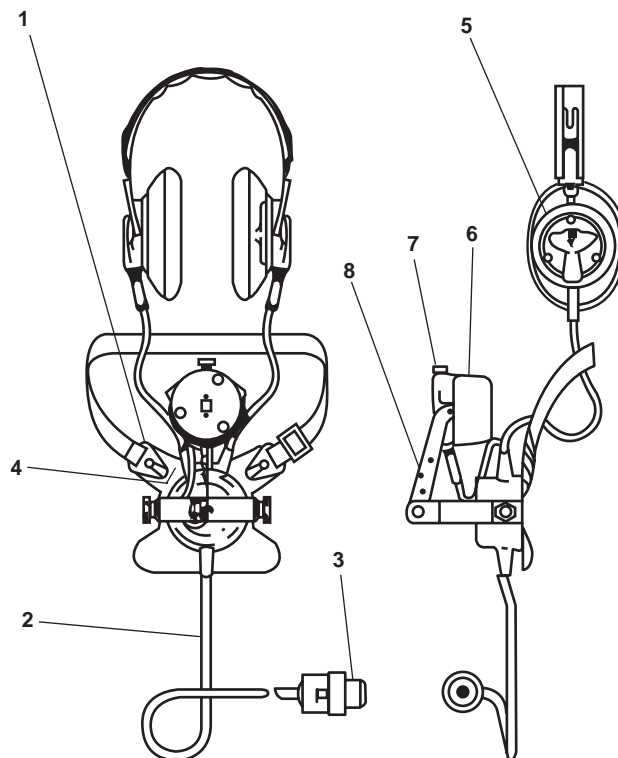

Figure 2. Typical Sound Powered Headset
- b. Unhook one end of the strap (figure 2, item 1) from the chest plate and unroll the cord (figure 2, item 2).
- d. Insert the jack plug (Figure 2, item 3) into the socket.
- e. Place the strap around neck and connect the hook to the chest plate (figure 2, item 4).
- f. Place the headset (figure 2, item 5) on the head with the ear cups covering the ears.
- g. Adjust the strap so that the mouthpiece (figure 2, item 6) is approximately 3 inches in front of the mouth and 2 inches below the lips.
4. Press and hold the button (figure 2, item 7) on top of the mouthpiece to speak to another station.
5. When authorized to discontinue operation, remove the headset (figure 2, item 5) from around the neck and loop it over the mouthpiece and around the support bracket (figure 2, item 8).
6. Disconnect the plug (figure 2, item 3) from the telephone jack.
8. Roll up the phone cord (figure 2, item 2), loop it over the mouthpiece, and place it on the support bracket.